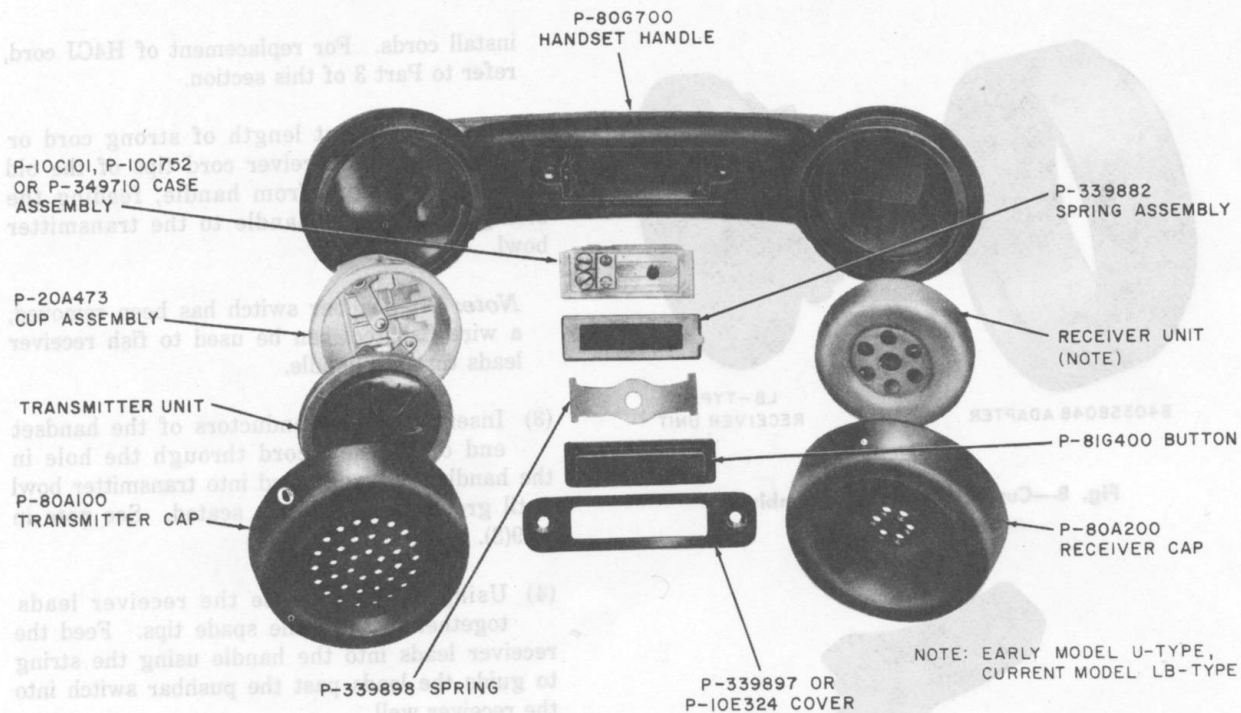

Fig. 10—G5-Type Handset Assembly
2.26 The G5-type handsets (Fig. 10) are equipped with a pushbar switch located in the handle. The pushbar switch is wired for push-to-talk, push-to-listen, or to control an external function.